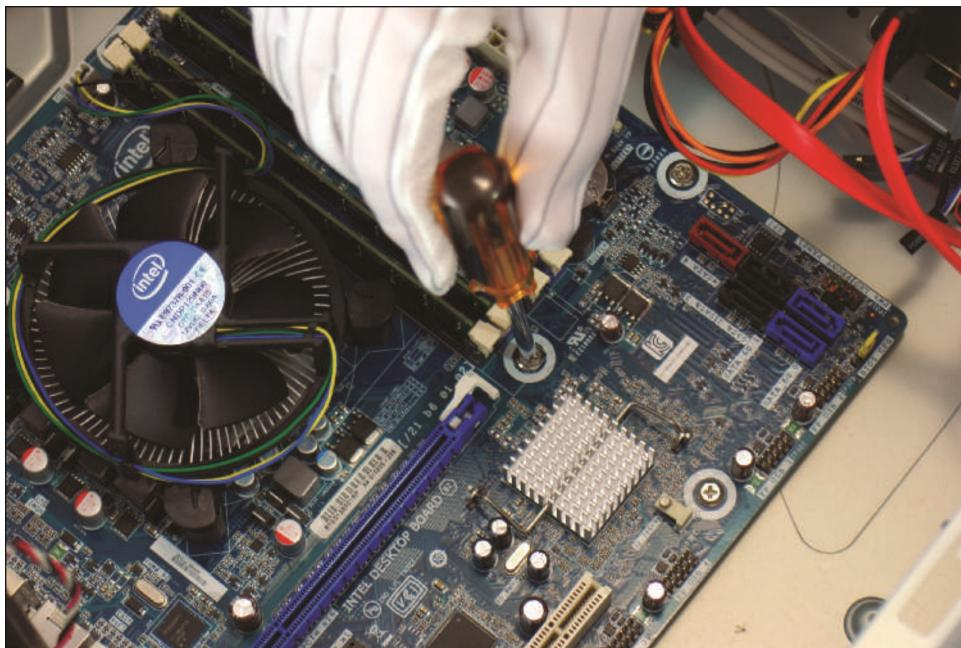
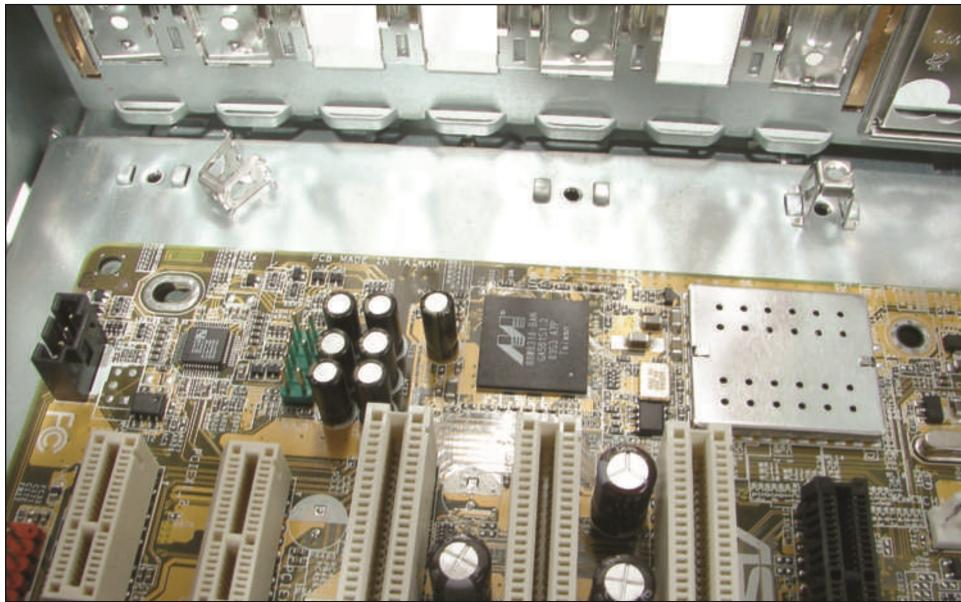

Figure 2-13 Remove up to nine screws that hold the motherboard to the case
Figure 2-14 This motherboard connects to a case using screws and spacers that keep the board from touching the case
5. You're now ready to remove the screws that hold the motherboard to the case. A motherboard is installed so that the bottom of the board does not touch the case. If the fine traces or lines on the bottom of the board were to touch the case, a short would result when the system is running. To keep the board from touching the case, screw holes are elevated, or you'll see **spacers**, also called **standoffs**, which are round plastic or metal pegs that separate the board from the case. Carefully pop off these spacers and/or remove the screws (up to nine) that hold the board to the case (see Figure 2-13) and then remove the board. Set it aside in a safe place. Figure 2-14 shows a motherboard sitting to the side of these spacers. One spacer is in place and the other is lying beside its case holes. Also notice in the photo the two holes in the motherboard where screws are used to connect the board to the spacers.